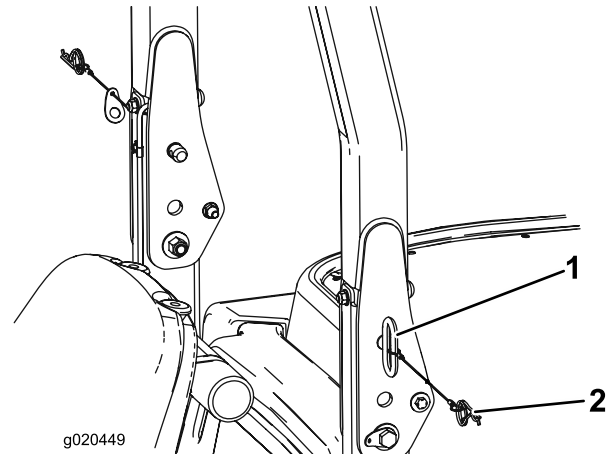

Figure 32
1. To lower the roll bar, remove the hairpin cotters and the two pins (Figure 32).